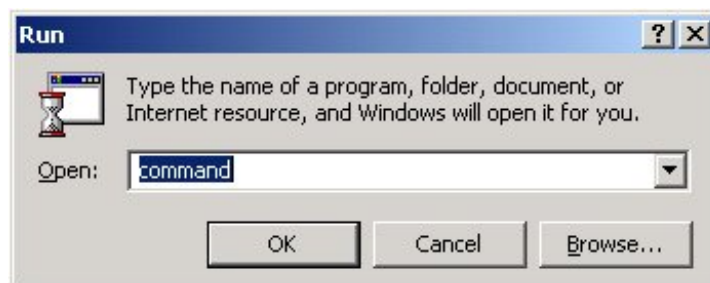

Figure 29: Run Dialog Box
1. From the Start menu, select Run. The Run dialog box appears (Figure 29).